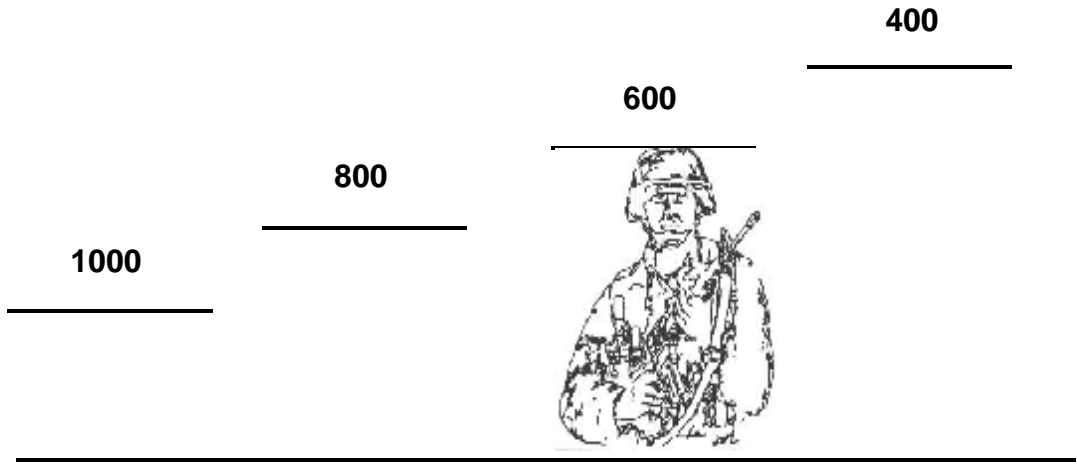

Fig. 20 Range Finding Stadia (400 – 1000 m)
- 8.2.5 The stadia can be used to equate 1 m at distances of 400, 600, 800 and 1000 m respectively, which is approximately the distance between the top of a man's helmet and his belt (Fig. 20).